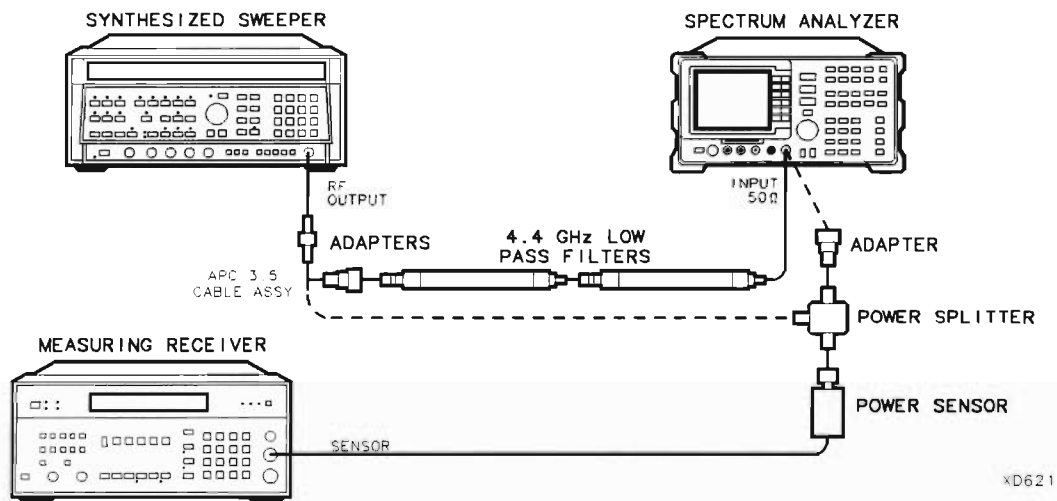

Figure 2-53. Second Harmonic Distortion Test Setup, >2.9 GHz
13. Connect the equipment as shown in Figure 2-53, with the output of the synthesized sweeper connected to the input of the power splitter, and the power splitter outputs connected to the spectrum analyzer and the power sensor.
24. Connect the equipment as shown in Figure 2-53 with the filters in place.